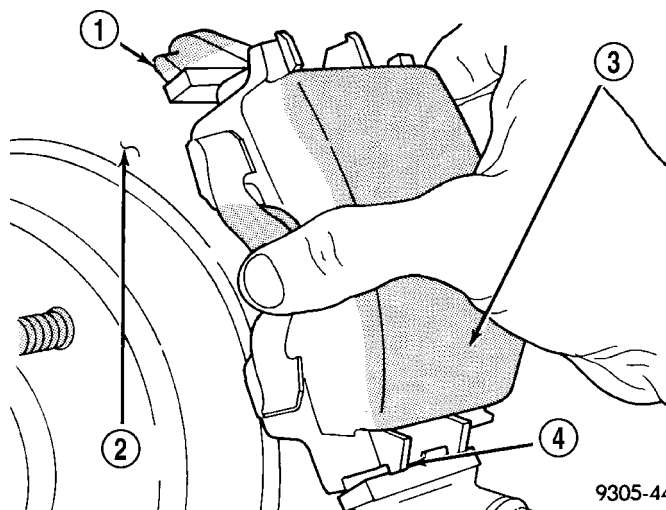

Fig. 41 Removing / Installing Caliper Assembly
(4) Remove caliper from adapter using following procedure. First rotate top of caliper away from adapter. Then lift the caliper off the bottom abutment on the adapter (Fig. 41).